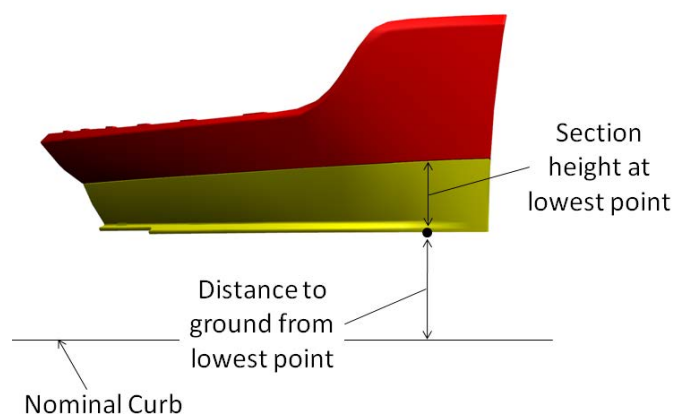

Figure 3: Interference Calculation for Air Deflectors Greater Than 180 mm to Ground
4.1.3.3.1 Determine Air Deflector Section Height. Using math data determine the air deflector section height as shown in Figure 3. Document distance in Data Sheet A2.
4.1.3.3.2 Parking Block/Curb Interference Calculation. Multiply the section height of the air deflector determined in 4.1.3.3.1 by 20% to calculate the amount of curb interference to the bottom of the air deflector, not to exceed 20 mm. Document the interference in Data Sheet A2. See the following and Figure 3 for an example.